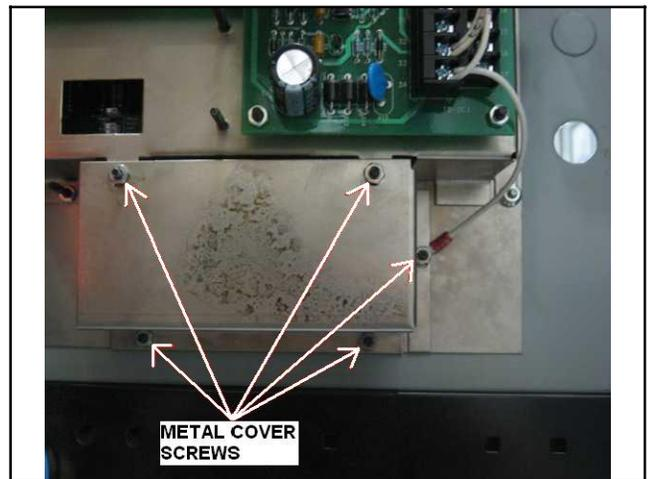

Figure 11 Remove Cover Screws
11. Remove the metal cover over the optional communication module, if present. See Figure 11.